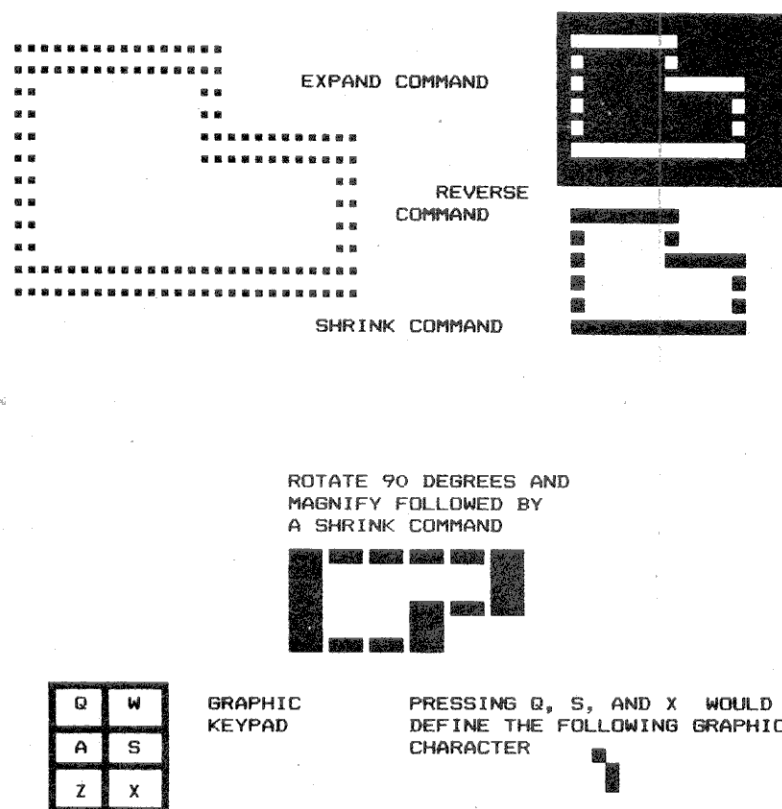

Fig. 3. Results of expand, reverse, shrink and 90 degree rotation commands. Also the graphic keypad and a resultant graphic figure
the portion you want lighted. If all six keys are hit in any order, a graphic block equal to CHR\$(191) will be drawn on the screen. If only the Q is hit only the upper left corner of the graphic block will be lit (Fig. 3). Once selected, the graphic character can be used to fill in a designated area.